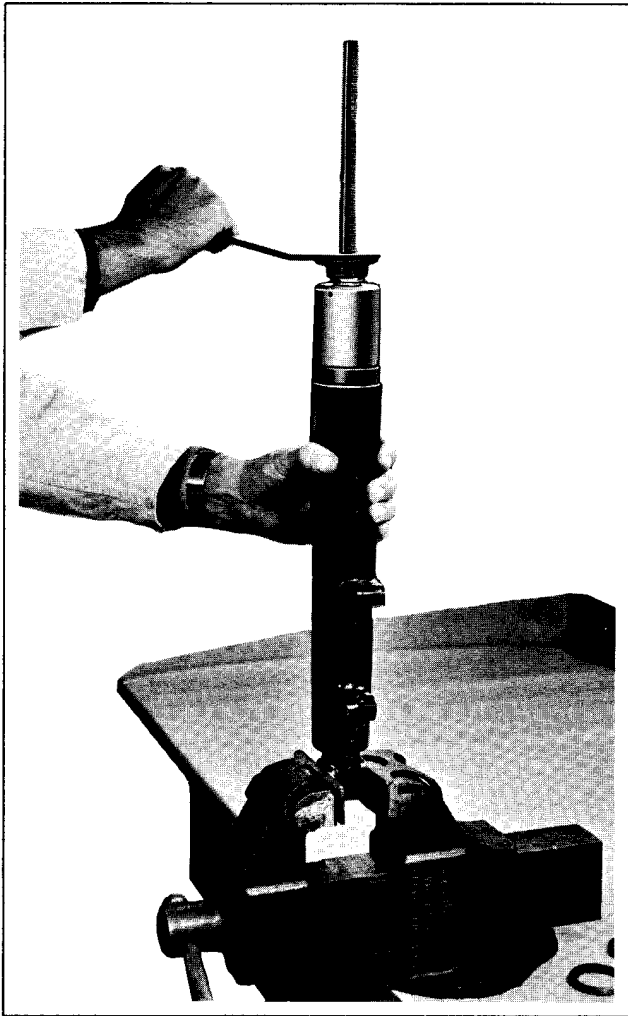

Figure 2-23. Removing Fork Slider Bushing
**REMOVING SLIDER BUSHINGS.** Position fork slider in vise as shown in Figure 2-23.